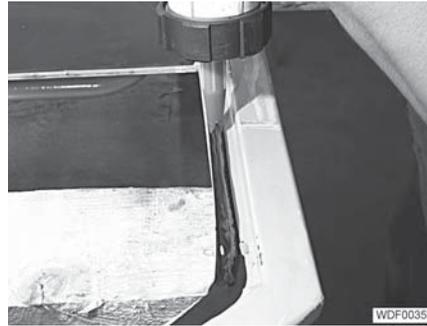

Fig. 378 Adhesive bead
- Apply the adhesive in a bead (Fig. 378) along the bonding surface of the door.